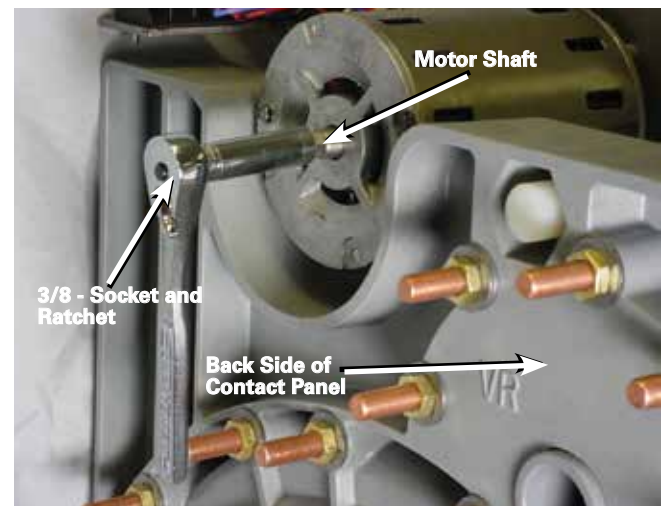

Figure 97. Motor and reversing movable contact rotation.
2. If the reversing movable contacts are located on the VR reversing stationary contact, place a 3/8" socket onto the rear shaft of the motor. See Figure 97. Using a ratchet, rotate the motor shaft clockwise to move the reversing movable contacts off of the reversing stationary contact. It may be necessary to rotate the tap-changer through several positions before the movable reversing contact will begin to move.